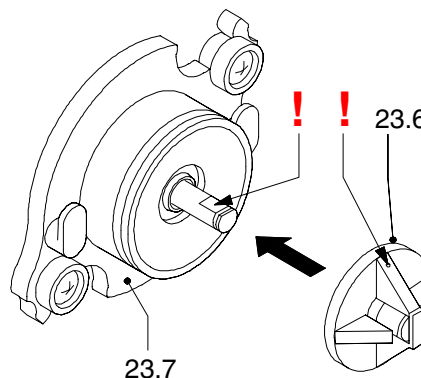

Fig. 5 Mounting the mixer
- At mounting the mixer in the mixer motor shaft the dot (fig.5) must be in line with the flattened part of the mixer motor shaft.